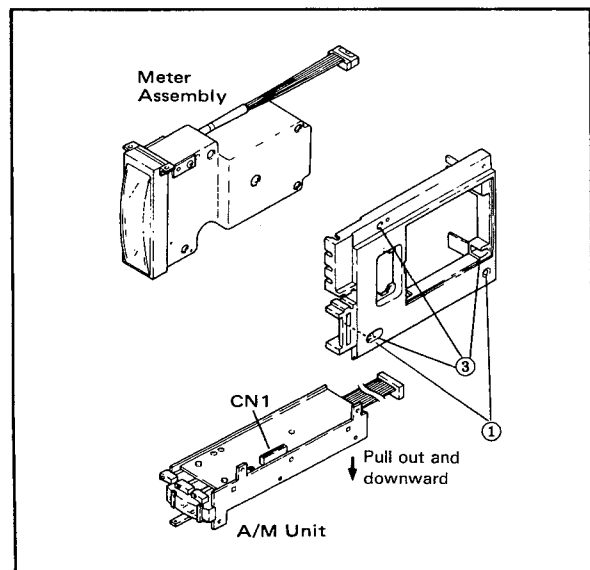
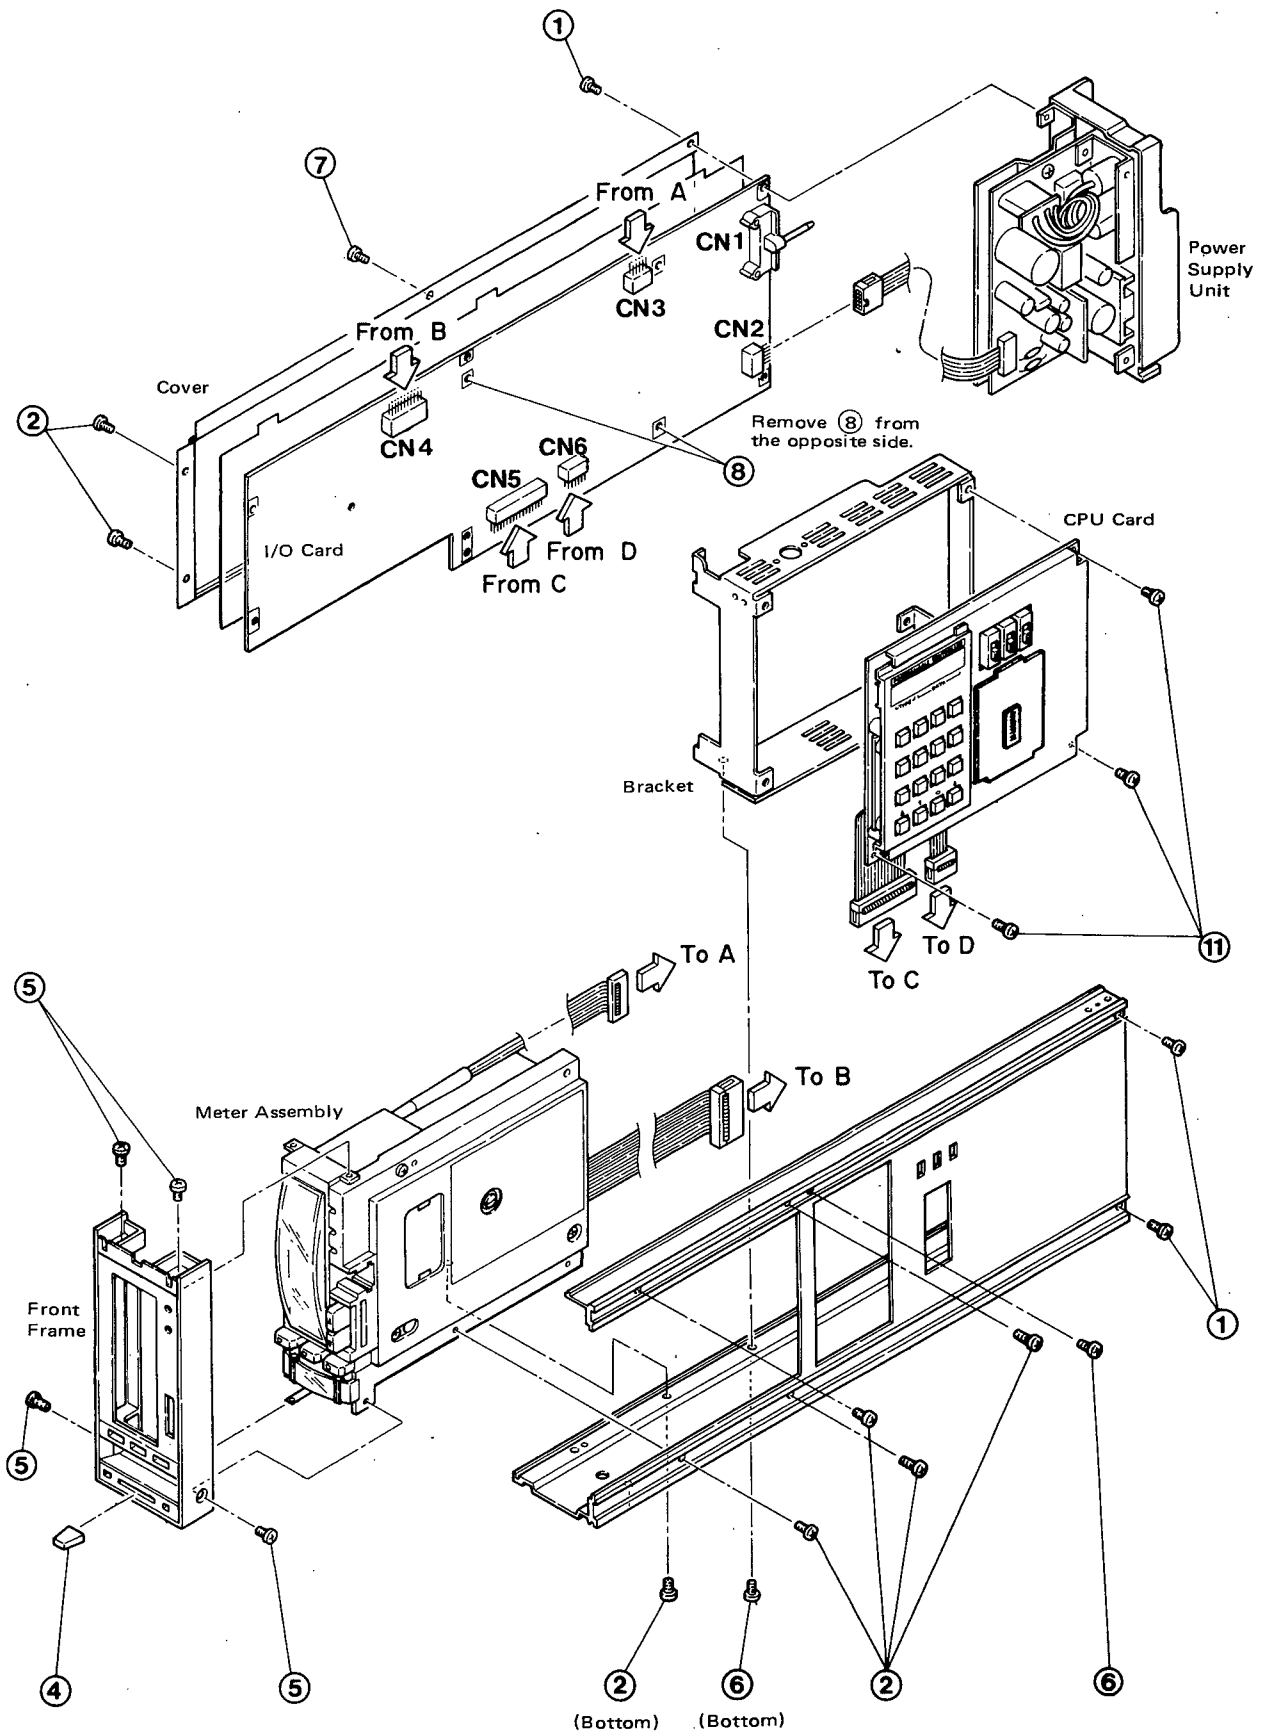

Figure 7-2. Disassembling the Display Unit.
Figure 7-3. Disassembling Main Assembly.
- (1) Remove seven screws (2) in Figure 7-3.
- (2) Pull the connectors CN3 and CN4 up to disconnect them from the main card.
- (3) Carefully pull the meter assembly out toward the front.
- (1) Pull off the manual operation lever knob (4) in Figure 7-3.
- (2) Remove four screws (5) to separate the front frame.
- (3) Pull the A/M unit out and downward by removing two screws (1) in Figure 7-2.
- (4) To separate the meter assembly, remove three screws (3) from the molded part. (The meter assembly in the fluorescent bar graph version can be separated in the same manner.)
- (1) Remove four screws (1) in Figure 7-3.
- (2) To remove the power supply unit, pull it out toward the rear and detach connector CN2.
- (1) Remove the meter assembly and the power supply unit as instructed in Sections 7-2-1 and 7-2-3.
- (2) Separate the control assembly from the chassis by removing two screws (6) in Figure 7-3.
- (3) Remove two screws (7) and open the cover to access screw (8).
- (4) Remove two screws (8) and pull connectors CN5 and CN6 down to separate the I/O card from the CPU card.
- (5) Remove three screws (11). Remove the CPU card from the bracket.